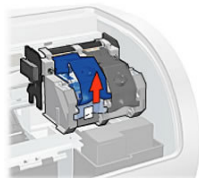

Fig. E5
7. Open the top cover and lift the print cartridge latch to the open position (figure E5).